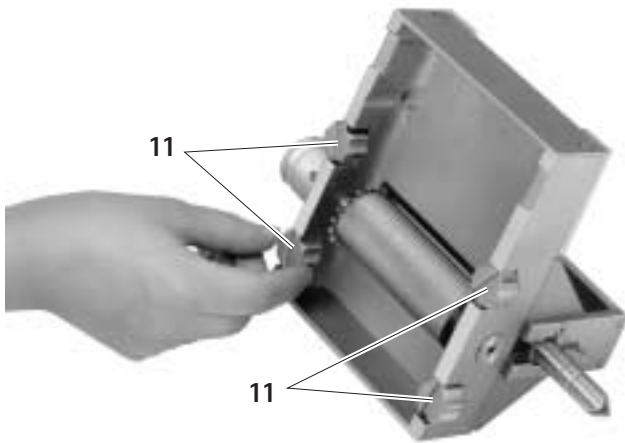

Fig. 1
- Turn cutting device **4** upside down so that the four screws **11** are visible, see Fig. 1.